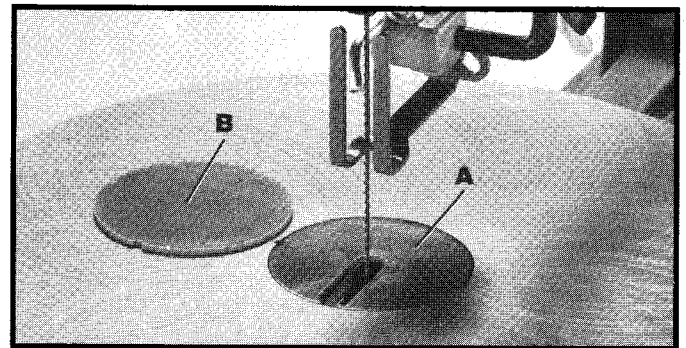

Fig. 22
A table insert blank (B) Fig. 22, is supplied as standard equipment with your scroll saw and can be used when cutting very small workpieces to give added support to the bottom of the workpiece. Simply cut a slot into the blank and replace the standard insert (A) with the blank (B). The slot cut into the blank (B) will only be as wide as the blade giving maximum support to the bottom of the workpiece.